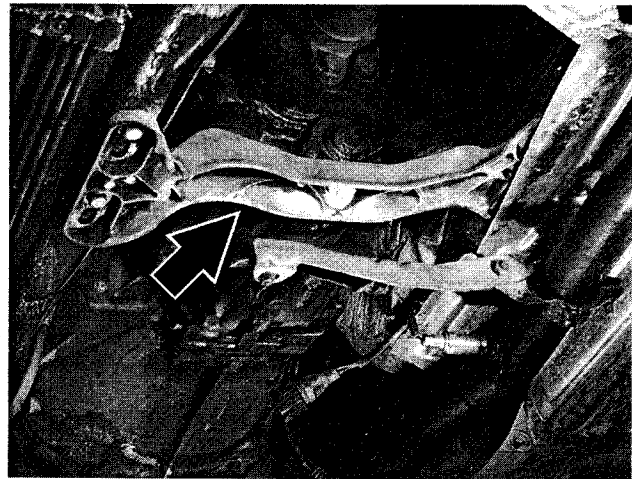

Fig. 12. Rear transmission crossmember (arrow).
11. Support transmission from below with jack. Remove rear support crossmember from transmission. See Fig. 12.